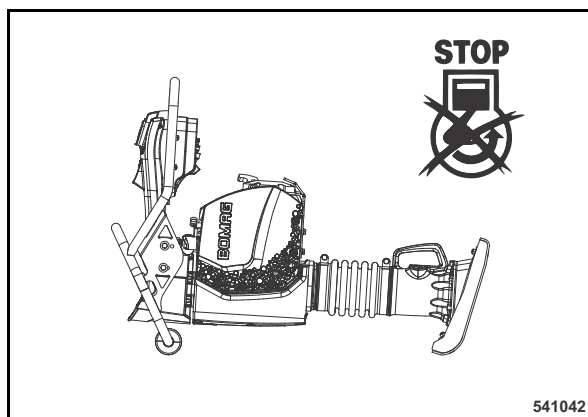

Fig. 28
- Lay the tamper on its side (Fig. 28).